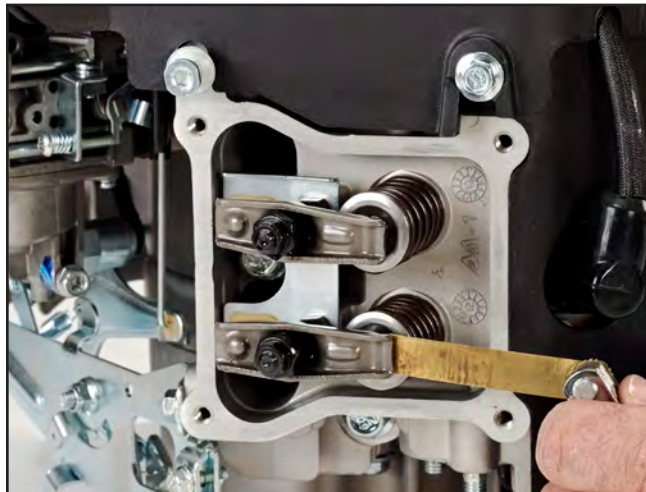

Figure 22
7. Adjust valve clearance (Figure 22):